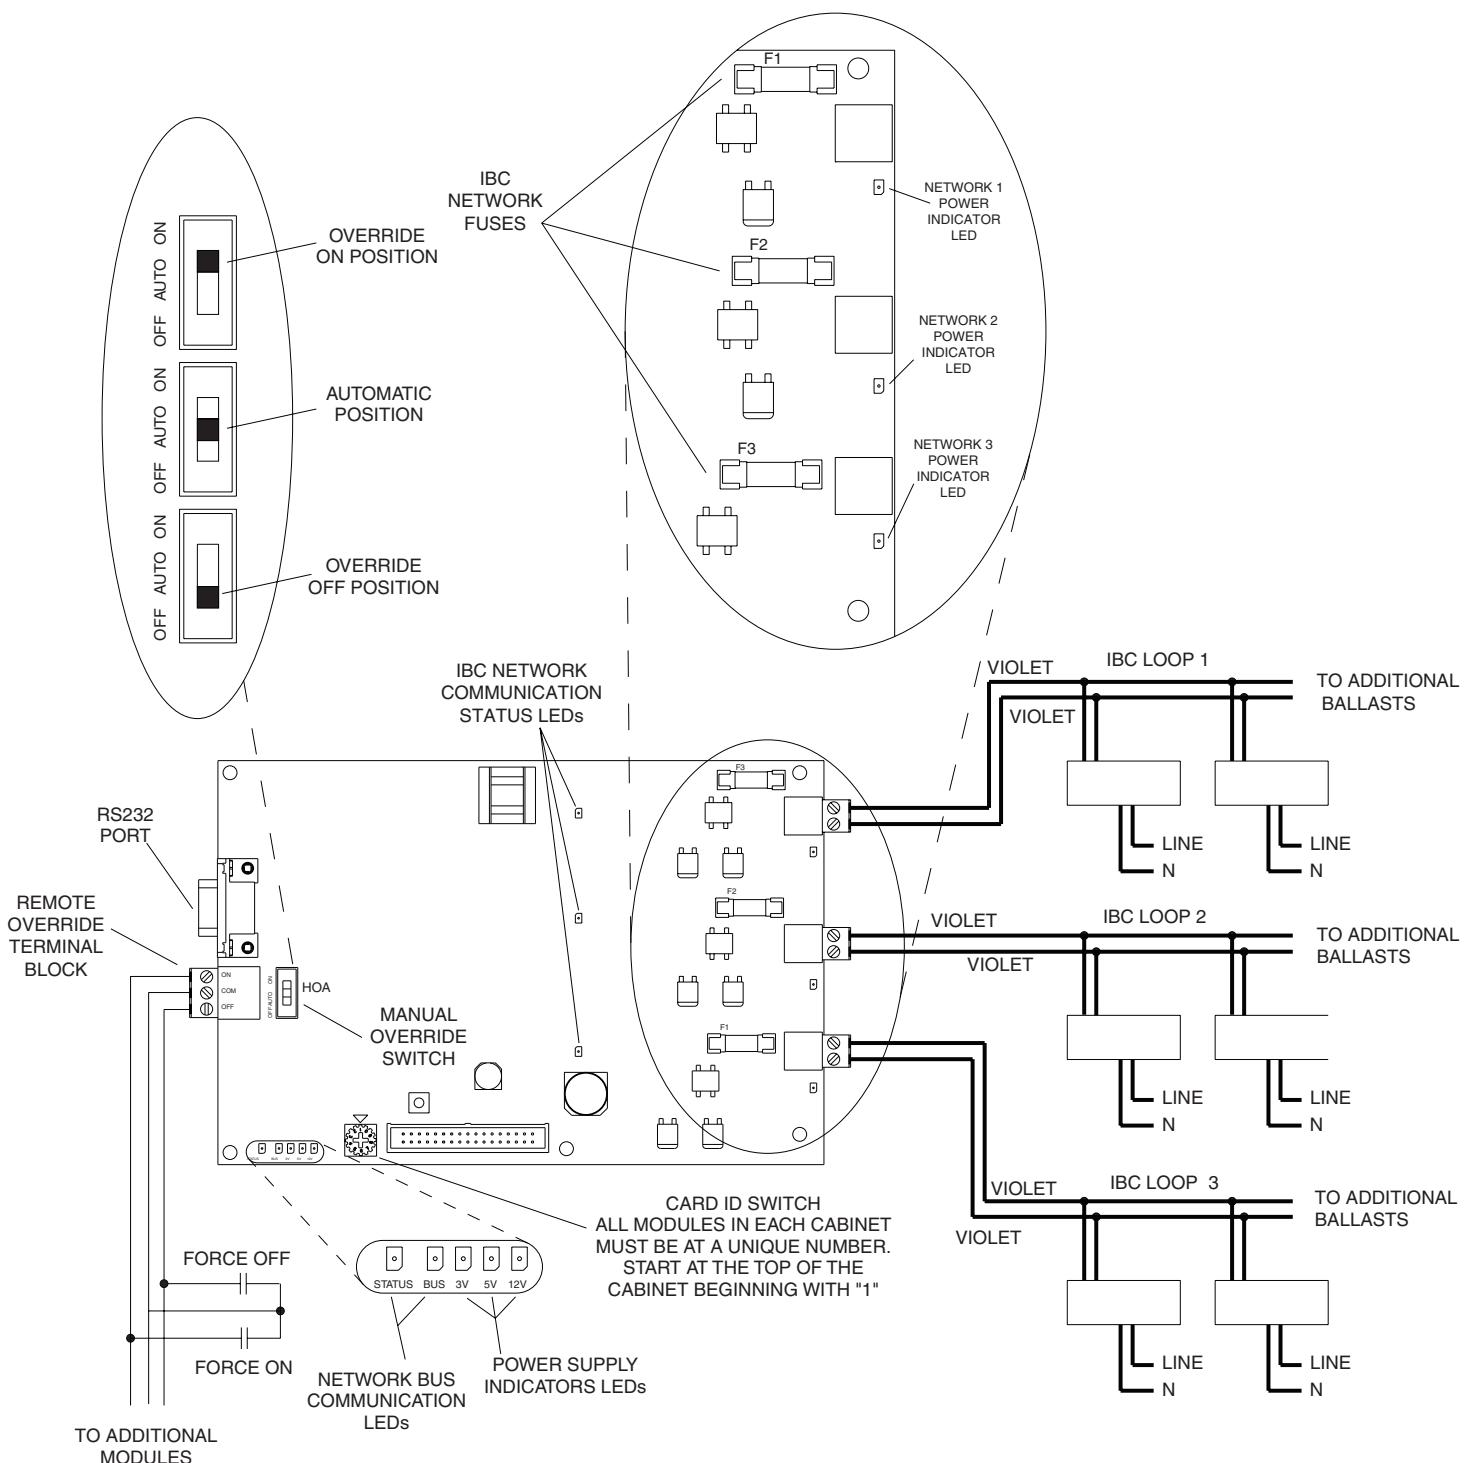

Figure 1 - SYPM S5BC Wiring Detail
Rotate the power module card ID switch to the address 1 position. (See *Figure 1*) Plug the male connector on the ribbon cable into the female socket on the power module. **Ribbon cable installs behind the modules.**
Each DALI/SIMPLY5 has a pair of control wires. Each control pair should be terminated on a DALI/SIMPLY5 network plug-in connector on the power module, (See *Figure 1*). Refer to Synergy supplied Installation drawings and any additional accessory instructions or project specifications for details. **A maximum of 64 DALI/SIMPLY5 ballasts can be connected to a single SIMPLY5 network.**
1. Verify the three "Manual Override Switches" are in the ON position. (See *Figure 1*)